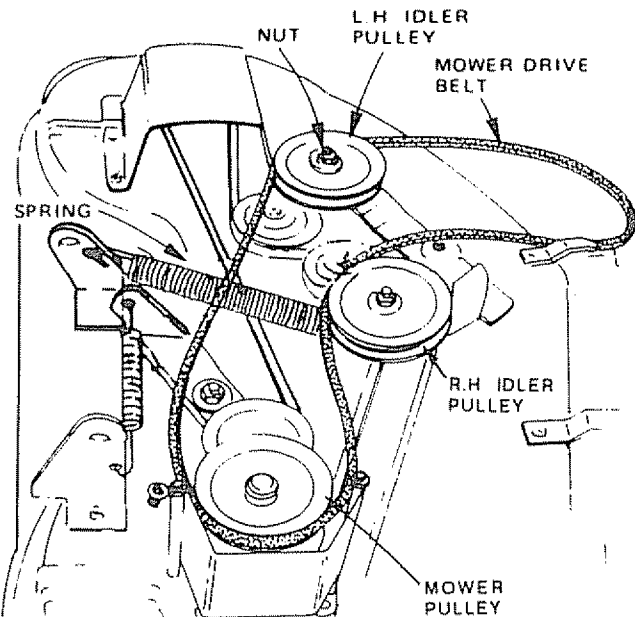

FIGURE 40
- Pull belt off both mower pulley and idler pulleys (Fig. 40).